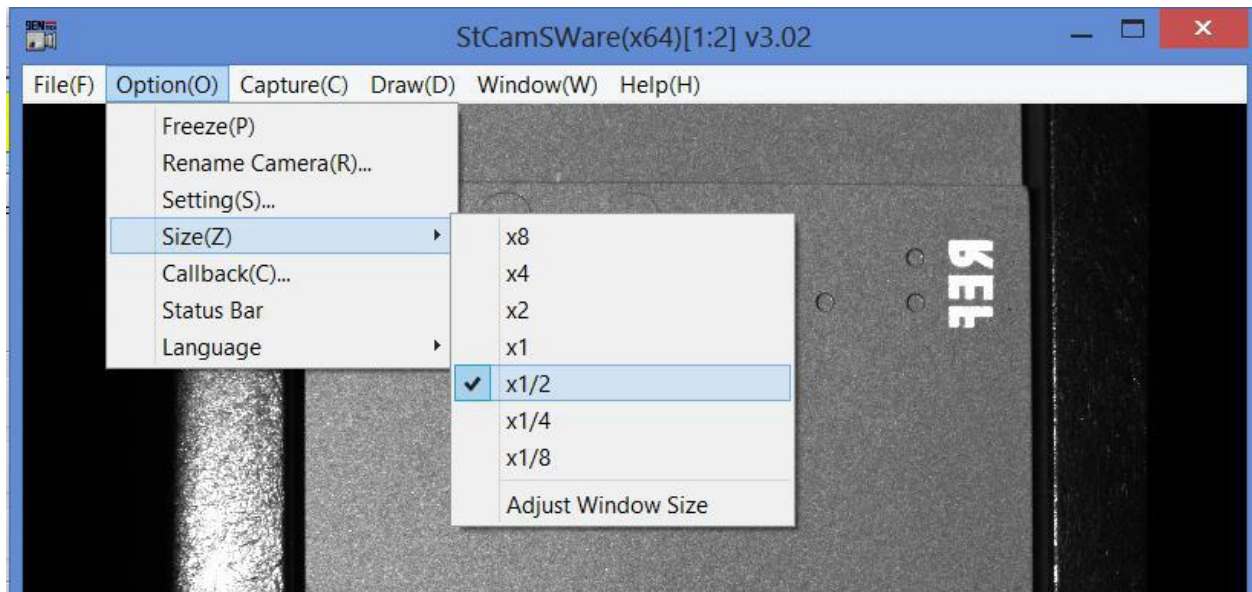

Figure 41 StCamSware Frame Size Setting
40. Next, Go to StCamSware, go to Option -> Size, Select “x ½” as below Figure 41.